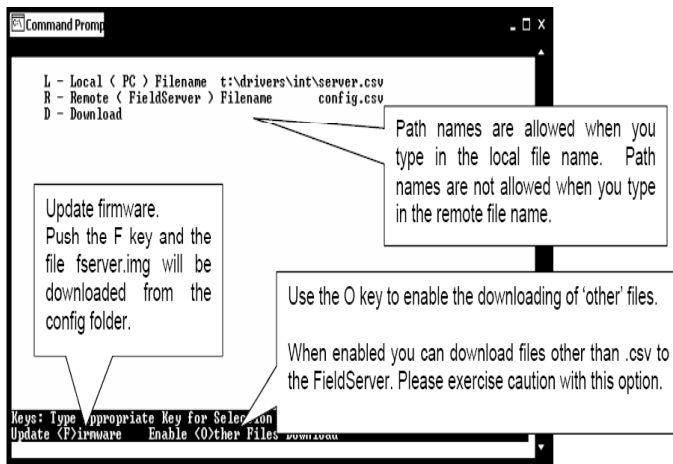

Figure 20: Download new Config.csv file
15.) At the next screen, (Figure 20), type **<D>** again.